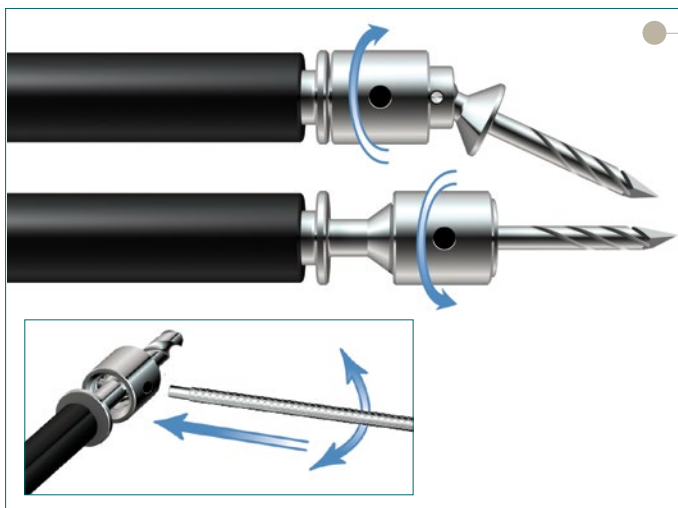

Figure 6
- To use the drill driver in variable angled mode, loosen the drill bit by tightly grasping the metal collar and slowly activating the drill in REVERSE mode. The cone shaped end of the drill bit will now be outside of the metal sleeve (Figure 6, Top).
- To use the drill driver in a straight or fixed angle mode, tighten the drill bit by tightly grasping the metal sleeve and slowly activating the drill in FORWARD mode. The cone shaped end of the drill bit will sit flush to the metal sleeve (Figure 6, Bottom).
In those cases where the metal collar is difficult to grasp and use, the non-threaded end of the humeral version rod can be used as a breaker bar, when inserted into the hole on the collar (Figure 6 Inset).